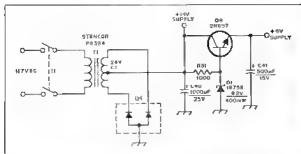

Fig. 3 — Power supply for the heterodyne VFO. Miniature diode assembly U1 is Motorola part no. MDAW50-2 or equiv.
- C40 — Fixed capacitor, 1000 pF 25 V dc, CDE no. HWM 1000-25 (Fig. 3).
- C41 — Fixed capacitor, 500  $\mu$ F, 15 V dc, CDE no. HWM 500-15 (Fig. 3).
- D1 — Silicon voltage regulator diode, 8.2 V, 400 mW, Texas Instruments no. 1N756A or equiv. (Fig. 3).
- Q8 — Npn silicon signal transistor, type 2N397 (Fig. 3).